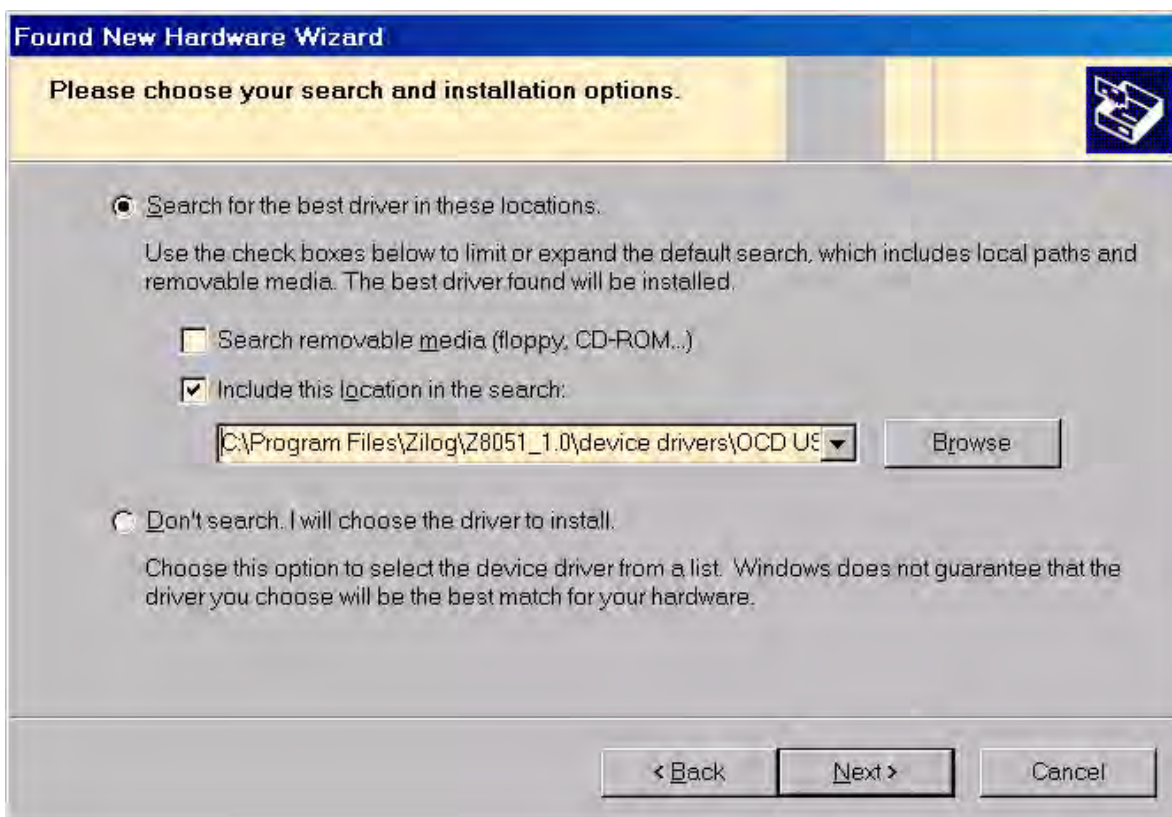

Figure 36. The Found New Hardware Wizard's Browse Screen
3. The next dialog box, shown in Figure 36, prompts you to enter a path or navigate to the directory in which the .inf file was installed. Depending on the type of computer you use (32-bit or 64-bit), use the **Browse** button to navigate to one of the following paths and click the **Next** button, leaving all other selections at their default settings.